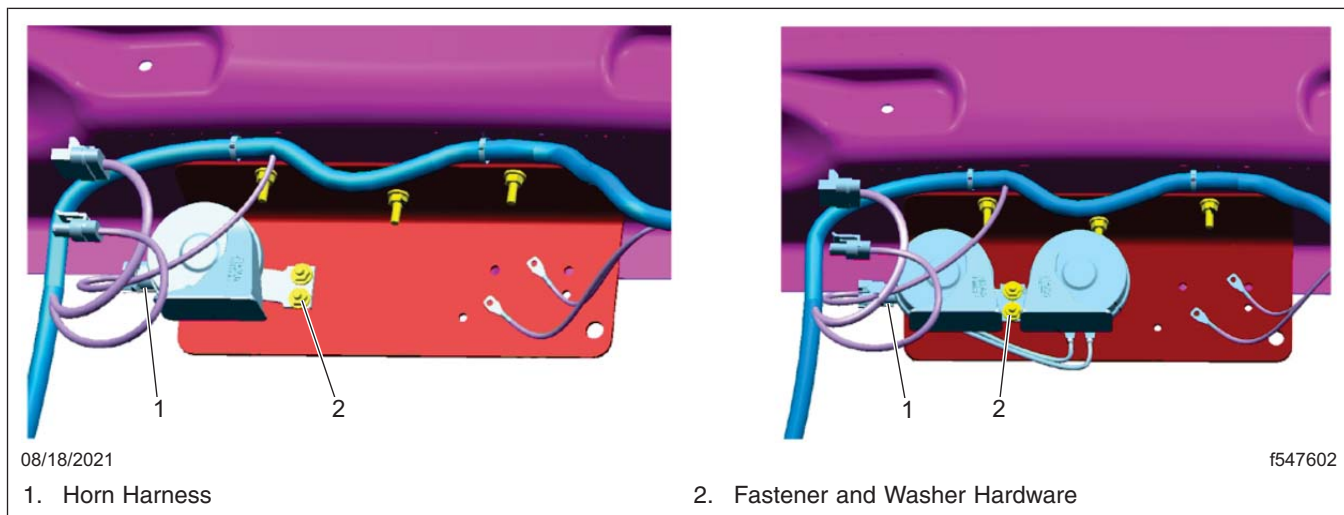

Fig. 6, Single- and Dual-Horn Installation
2. Remove the two fastener and washer hardware sets. See Fig. 6.